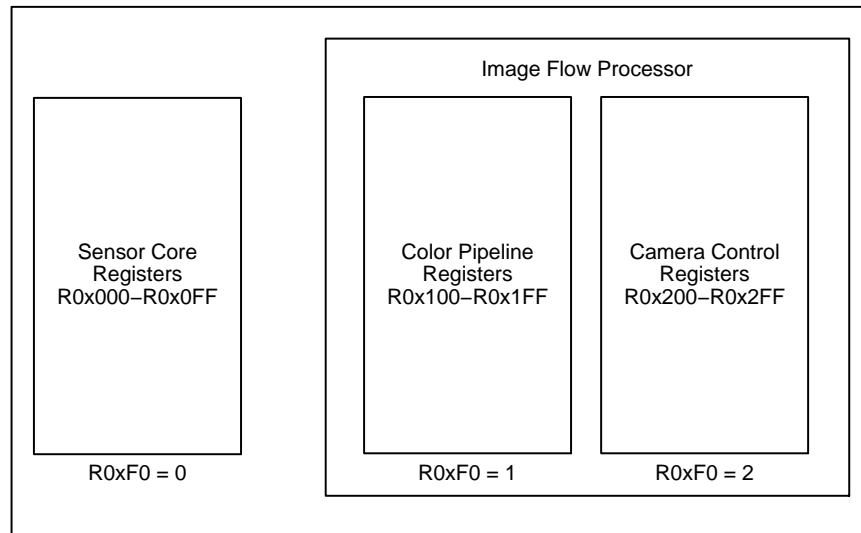

Figure 2. Internal Registers Grouping
Internally, the MT9M131 consists of a sensor core and an IFP. The IFP is divided in two sections: the colorpipe (CP), and the camera controller (CC). The sensor core captures raw Bayer-encoded images that are then input in the IFP. The CP section of the IFP processes the incoming stream to create interpolated, color-corrected output, and the CC section controls the sensor core to maintain the desired exposure and color balance, and to support snapshot modes. The sensor core, CP, and CC registers are grouped in three separate address spaces, as shown in Figure 2.